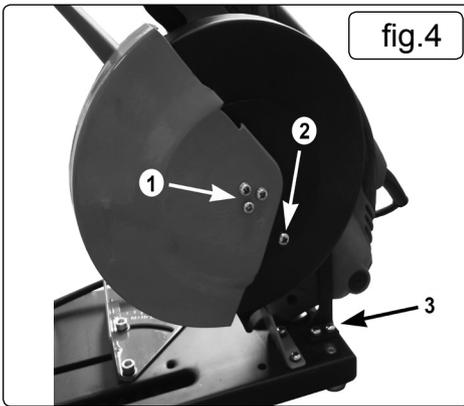
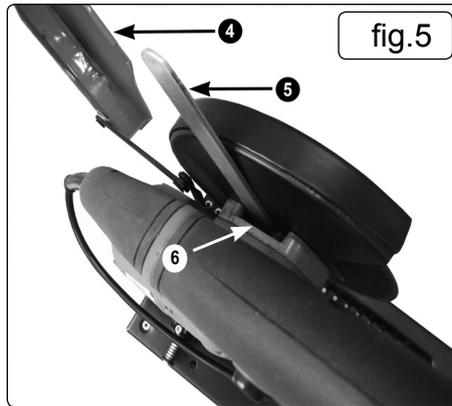

fig.4
fig.5
6.2. REMOVING AND INSTALLING CUTTING DISCS (Refer to figs. 4,5 and 6).
- 6.2.2. Remove three screws (fig.4/1) which hold the active disc guard in position. Note the orientation and relative positions of the spacer washer and mounting plate. Pull the active disc guard forward and then lay it behind the machine (fig.5/4). Remove the static disc guard screw (fig.4/2). Remove the active disc guard control rod screws fig.4/3) to allow the active disc guard to be removed completely.
- 6.2.3. Use the 12mm open ended spanner (fig.5/5) placed through the aperture (fig.5/6) in the casing of the machine to engage with the flats on the drive spindle.